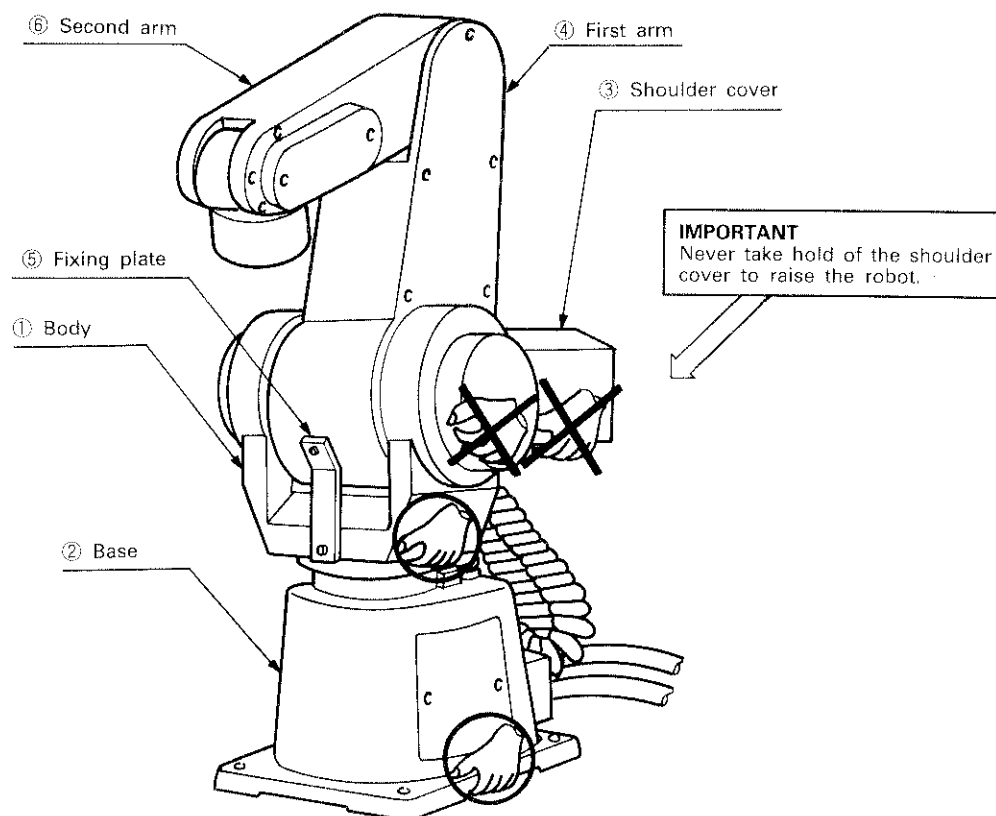
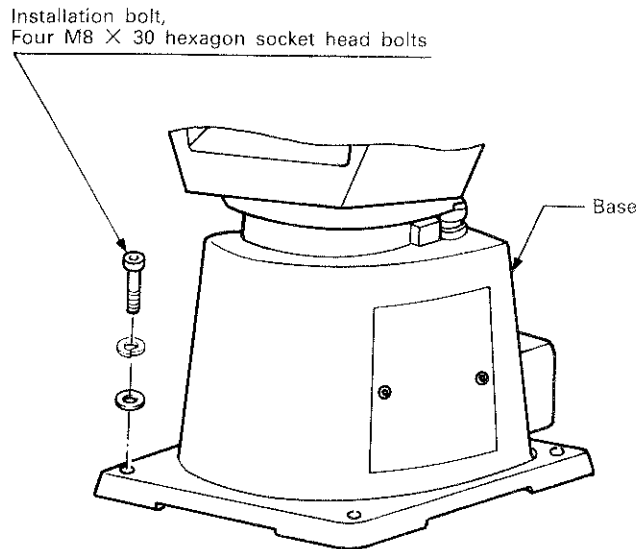
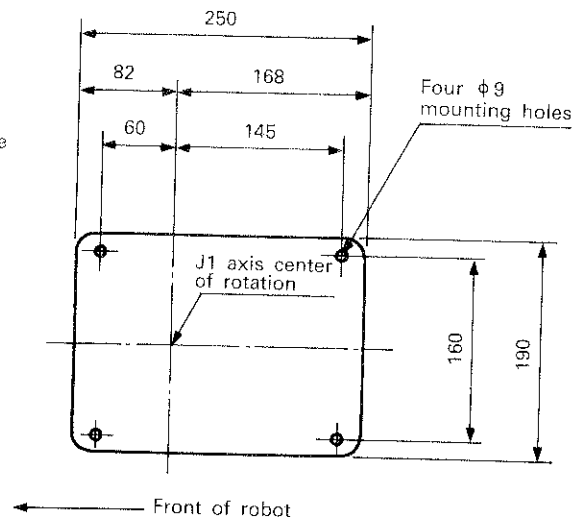

Fig. 2.1.1 Transportation of the Robot
Fig. 2.1.2 Installation of the Robot
Fig. 2.1.3 Robot Installed Dimensions
- (1) Fig. 2.1.1 shows the locations to be held by hands when transporting the robot.
- (2) Before transporting the robot, release the brakes in accordance with Section 2.2.4, Vol. 2, move the first arm (4) in the positive direction and the second arm (6) in the negative direction until they are pressed against the stoppers as shown in Fig. 2.1.1, and install the arm fixing plate (5) to the first arm (4) and body (1).
- (3) When raising the robot, take hold of the underside of body (1) or base (2) with your both hands.
- (4) Never take hold the sides or back of shoulder cover (3), or damage to the cover or personal accident could result.
- (5) The fixing plate (5) must be reinstalled before transportation to protect the arm (4) (6) during transportation. The robot must be transported in the attitude shown in Fig. 2.1.1.
- (6) The above paragraph (2) must be followed when the robot is installed on the other equipment and transported together with that equipment.
- (1) Fig. 2.1.2 shows how the robot is installed.
- (2) The robot mounting surface has been machined for accurate installation. Using the $\phi 9$ mounting holes provided at four corners of the base and the installation bolts (M8 X 30 hexagon socket head bolts) furnished, secure the robot onto the floor.
- (3) It is recommended that common surface plates be used to ensure that the robot is properly aligned with the equipment, jigs, and fixtures on which the robot works.
- (4) Surface roughness of the surface plates onto which the robot is to be secured must be $\nabla \nabla$ or more. A rough surface is the cause of poor contact between the robot and surface plate, resulting in misalignment.
- (5) The fixing plate (4) is installed before shipment as shown in Fig. 2.1.1 to protect the arm (5) during transportation. Remove this plate before operating the robot.
- (6) The customer should keep the fixing plate as it must be used when transporting the robot.
- (7) Fig. 2.1.3 shows the installed dimensions of the robot.
- (8) Remove the arm fixing plate after the installation is complete. When the robot is transported on a surface plate, this plate must be kept fit on the robot until the robot is finally installed.